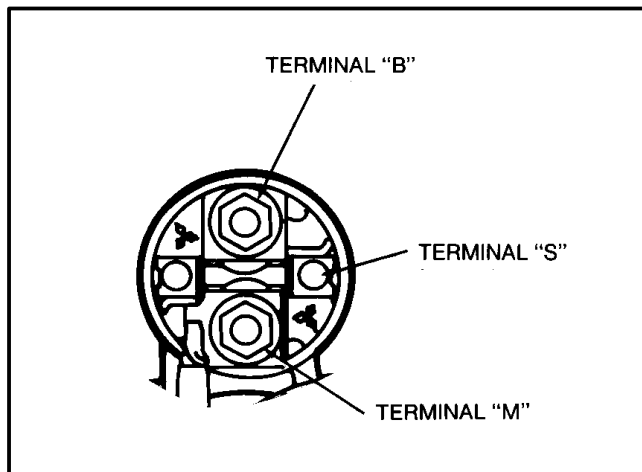

FIGURE 9-8. SOLENOID TERMINALS
1. Remove the "M" terminal nut and wire lead from the starter motor. Refer to Figure 9-8 on Page 9-6.
Solenoid: Push the solenoid plunger in and release it. The plunger should return to its original position. While holding the plunger all the way in, check for continuity between terminals "M" and "B". See Figure 9-8. If there is no continuity, replace the solenoid. After replacing the solenoid, check the pinion clearance.
1. Install the wire lead from the starter motor to terminal "M" on the solenoid. Refer to Figure 9-8 on Page 9-6.
3. Connect the battery cables and wires to the starter solenoid as shown in Figure 9-8 on Page 9-6.